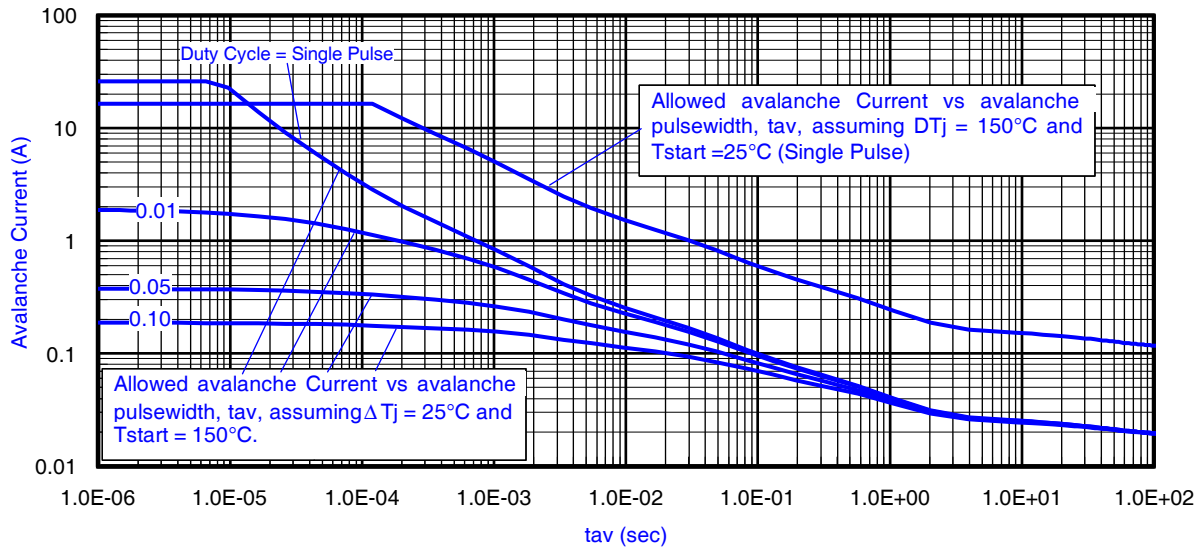

Fig 16. Typical Avalanche Current vs. Pulsewidth
Notes on Repetitive Avalanche Curves, Figures 16, 17:
7. ΔT = Allowable rise in junction temperature, not to exceed T_{jmax} (assumed as 25°C in Figure 16, 17).